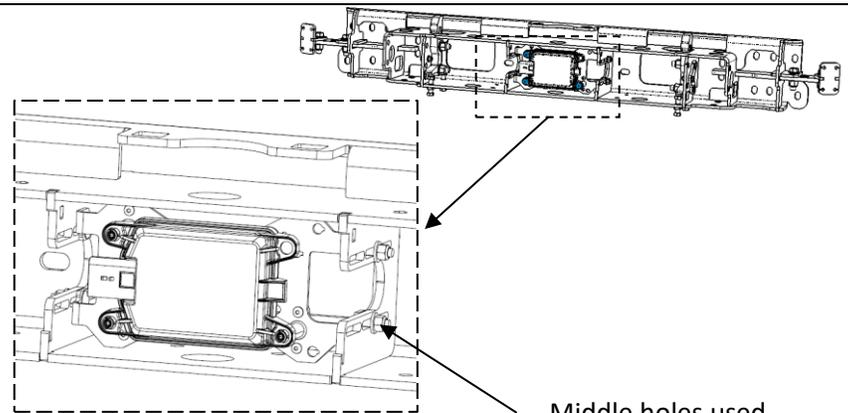

Figure 5 - Bendix Radar Sensor Installation
5. Mount the radar sensor bracket to HERD bumper bracket, use middle holes as shown in Figure 5.